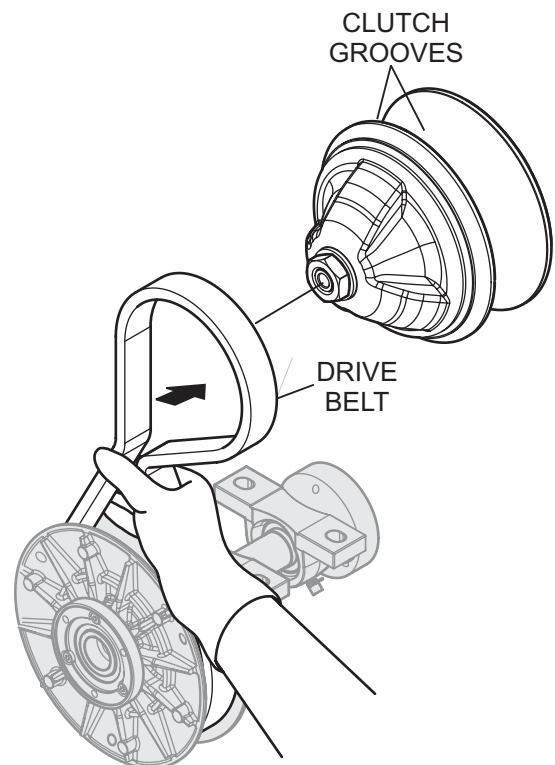

Figure 22. Spare Drive Belt Placement (Clutch)
6. Place the spare drive belt onto the clutch as shown in Figure 22.